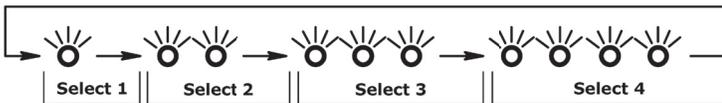

Figure 3. Setup Mode LED Flash Sequence
5. The sequence will keep repeating (1,2,3,4 - 1,2,3,4) as long as the Control Switch is ON. **To select an output format, simply turn OFF the Control Switch during, or right after, the specific number of flashes.** Figure 3 shows the flash sequence and the turn-off timing. The output formats are shown in the following table: